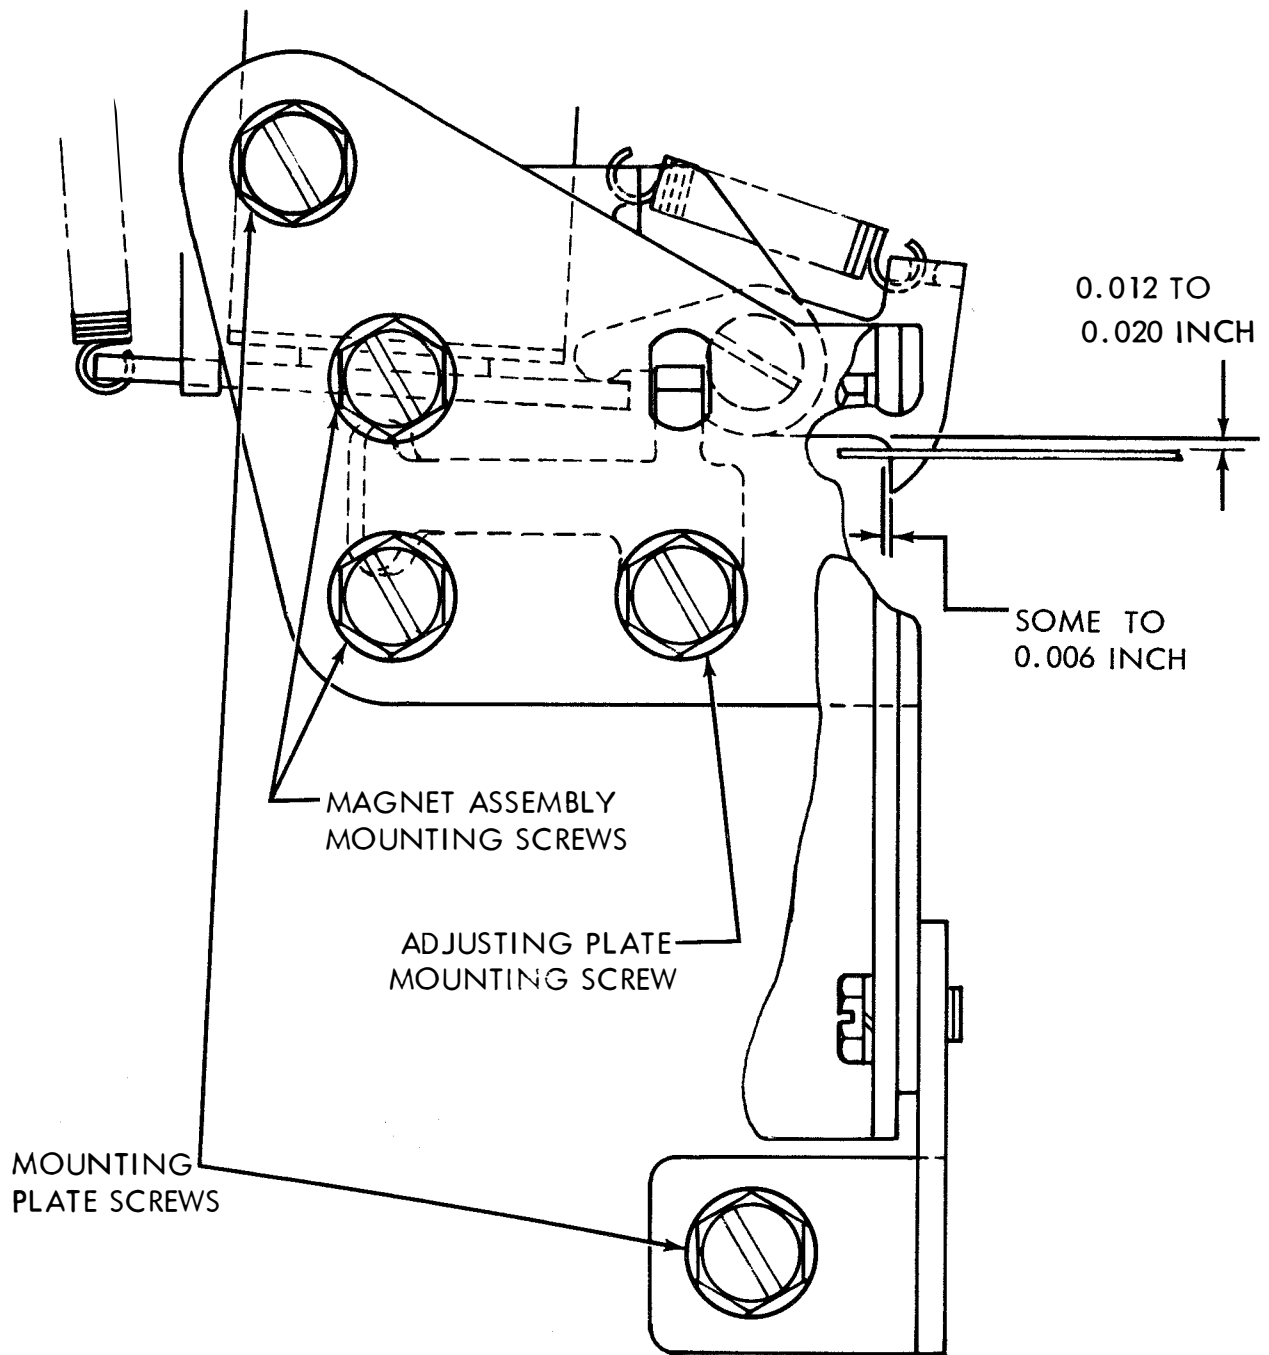

Figure 3 - Latch Pawl and Adjusting Plate Clearances
3.01 Requirement: With clutch disengaged and armature held against the magnet core, there should be some to 0.006 inch clearance between the latching surface of the latch pawl and the engaging surface of the clutch trip codebar (Figure 3).
3.02 Requirement: With the armature adjusting bracket disengaged from the armature, manually hold the armature against the magnet core and depress keylever "A". There should be 0.012 inch to 0.020 inch clearance between the latch pawl and the clutch trip codebar at the closest point as shown in Figure 3.